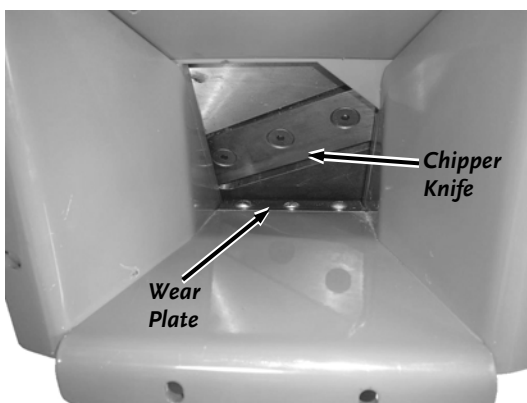

Figure 37
4. Closely inspect the Chipper Knife and Wear Plate for nicks or dull (rounded) edges (**Figure 37**).